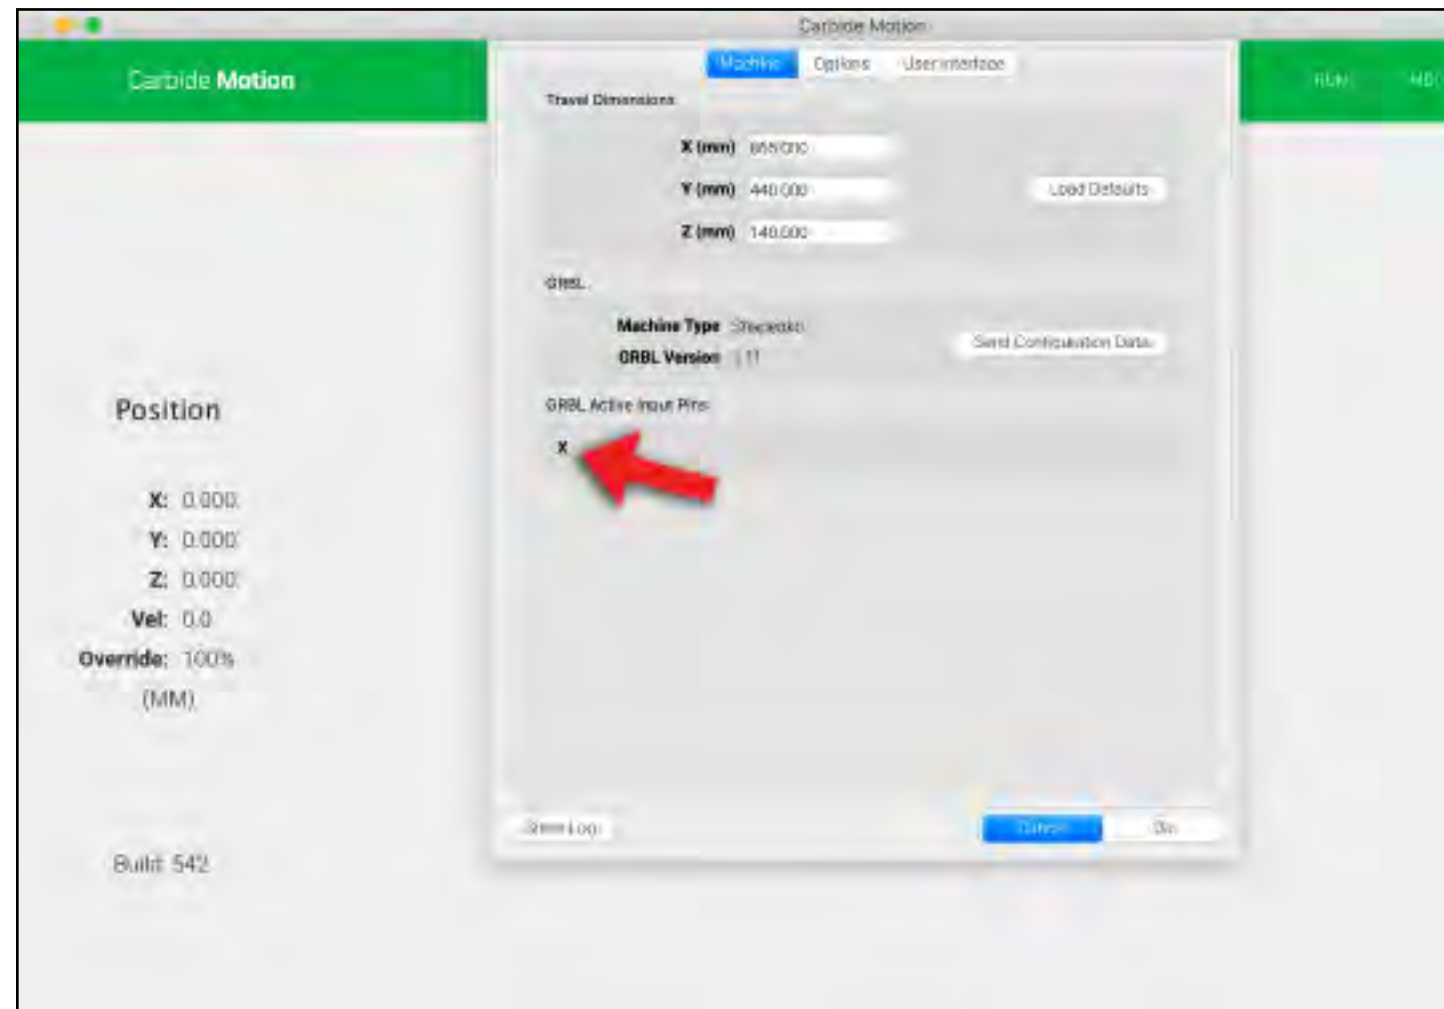

Figure 10-6
4. In the *Machine tab*, check to see that the correct proximity switch appears in the *GRBL Active Input Pins* section. See **Fig. 10-6**.